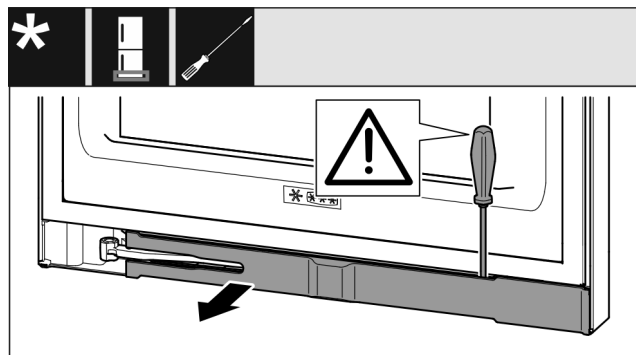

Fig. 15
- Use a slotted screwdriver to snap out the faceplate and swivel it to the side. (see Fig. 15)